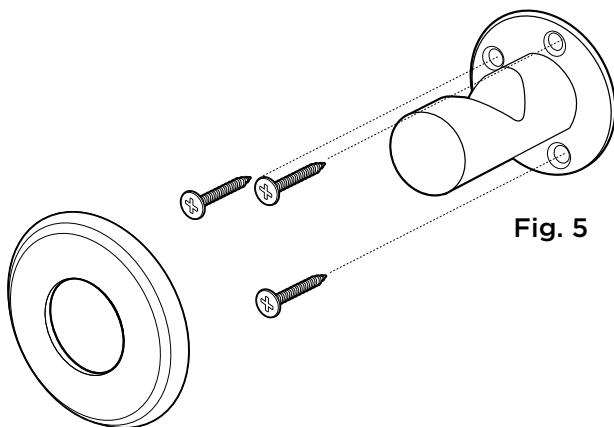

Fig. 5
- To install the bag hook, measure up 44" (1118 mm) from finished floor in the desired location and mark the wall. **Fig. 5**